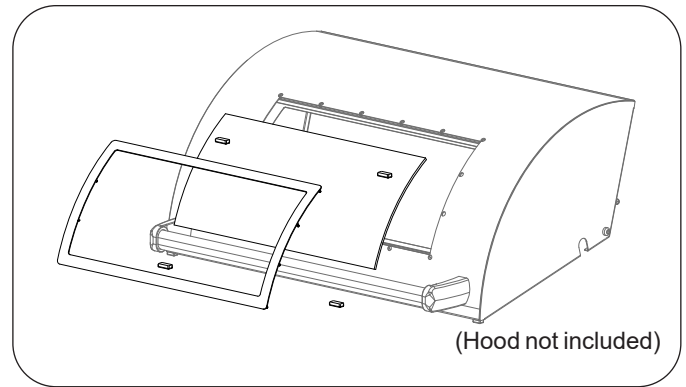

Fig. 1-1 Orientation
5. Then, orient the new window onto the flange, making sure it is centered in the opening. Then place the window bezel over the glass (see Fig. 1-1 and Fig. 1-3).